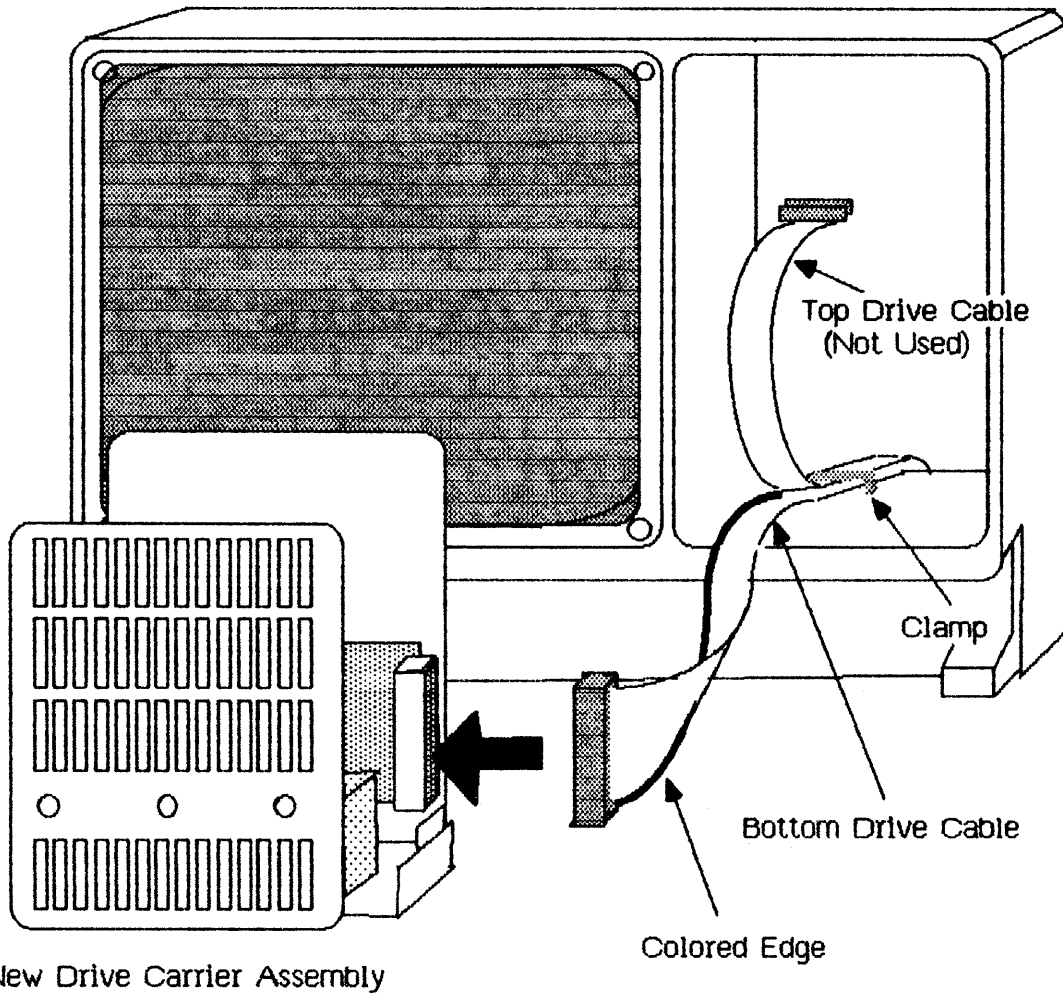

FIGURE 1: ATTACHMENT OF MICRODISK DRIVE TO DRIVE CABLE
- 2) See figure 1 at the end of this document. The disk drive cables coming from the Lisa are already fastened to the floor of the drive compartment one on top of the other with a clamp. The bottom cable should be connected to the micro diskette drive in the new disk carrier assembly from the kit, WITH THE COLORED EDGE OF THAT CABLE DOWN, TOWARD THE BOTTOM OF THE CONNECTOR. INSERTING IT ANY OTHER WAY COULD DAMAGE THE micro diskette DRIVE.